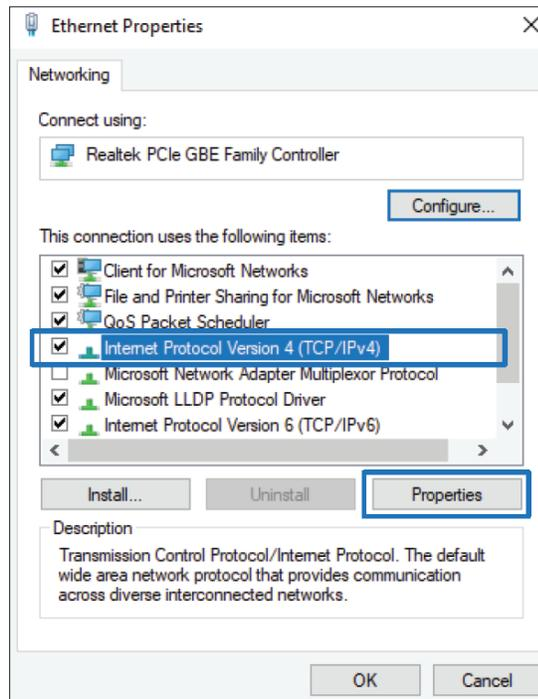

Figure 5
5. Highlight “Internet Protocol Version 4 (TCP/IPV4)” and click on Properties. (Figure 5)